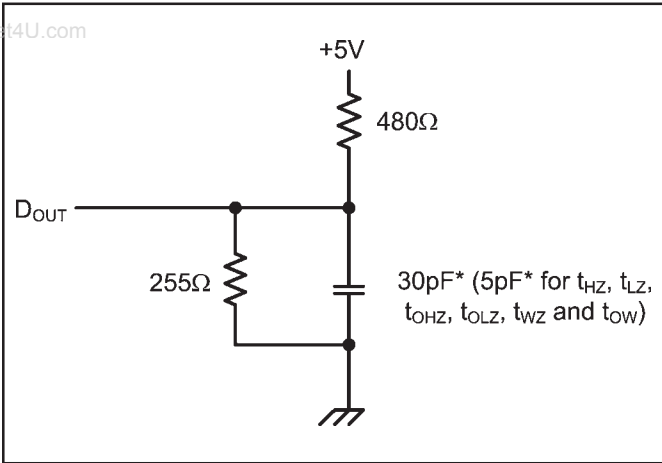

Figure 1. Output Load
8. Transition is measured ± 200 mV from steady state voltage prior to change, with loading as specified in Figure 1. This parameter is sampled and not 100% tested.
Output Load	See Figures 1 and 2